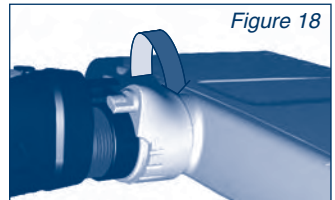

Figure 18
- Unlock the ejector-clip and separate it from the activating rod (figure 18).